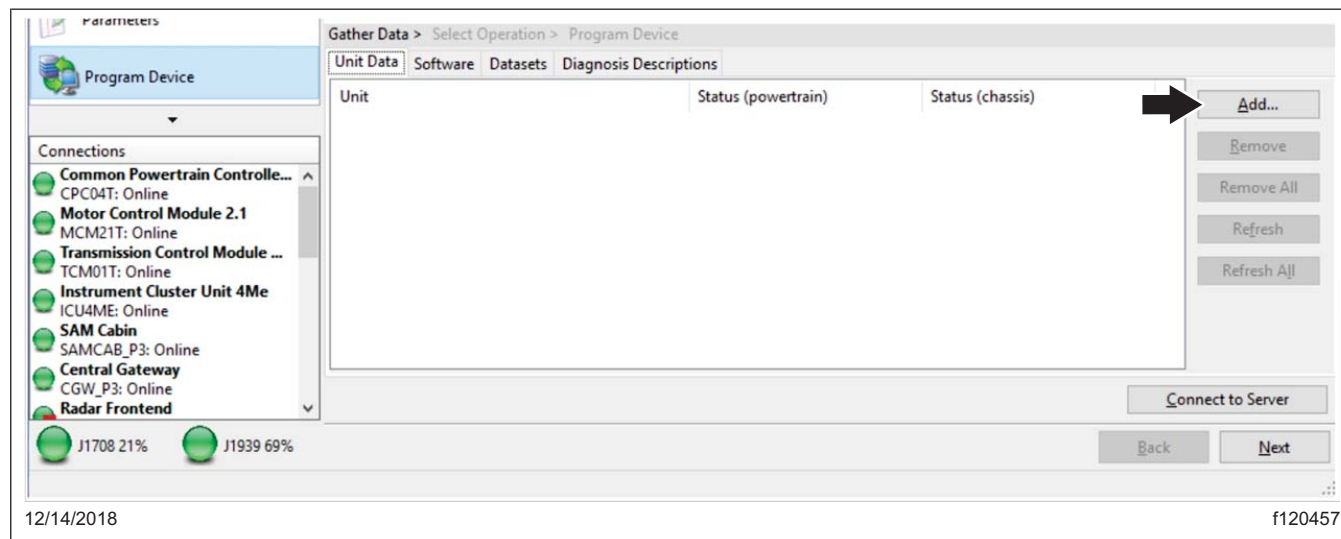

Fig. 6, Adding the VIN to Download Updated Server Data
7. Click "Add" to add a download request for the vehicle. See Fig. 6.